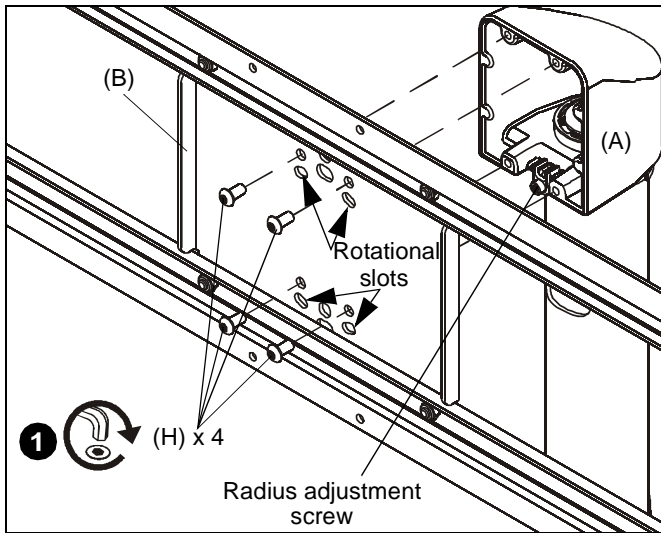

Figure 1
1. Use four 1/4-20 x 1/2" button head cap screws (H) to secure table stand (A) to table stand interface (B). (See Figure 1)
NOTE: If roll adjustment is desired, install screws through rotational slots rather than the standard slots. (See Figure 1)
NOTE: In order to achieve a +/- 90° rotation radius while using the rotational slots, the radius adjustment screw must be removed and replaced with #10-24 x 1/2" socket head cap screw (M). (See Figure 1)